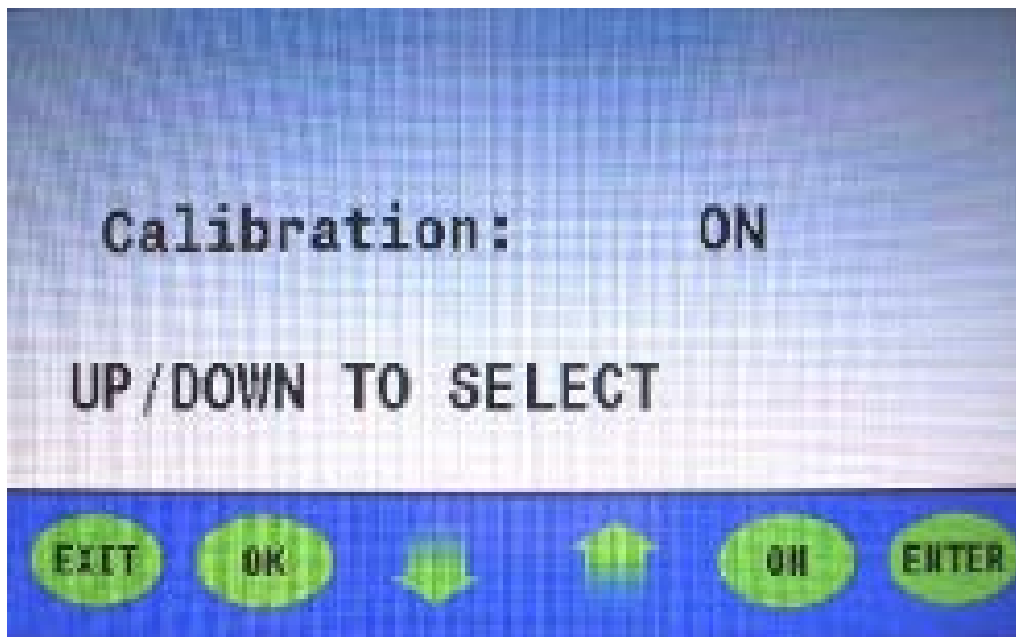

Figure 3
4. Scroll down to “Calibration.” Next, press the **Enter button**. The display will read: “Calibration: ON” (**figure 3**).